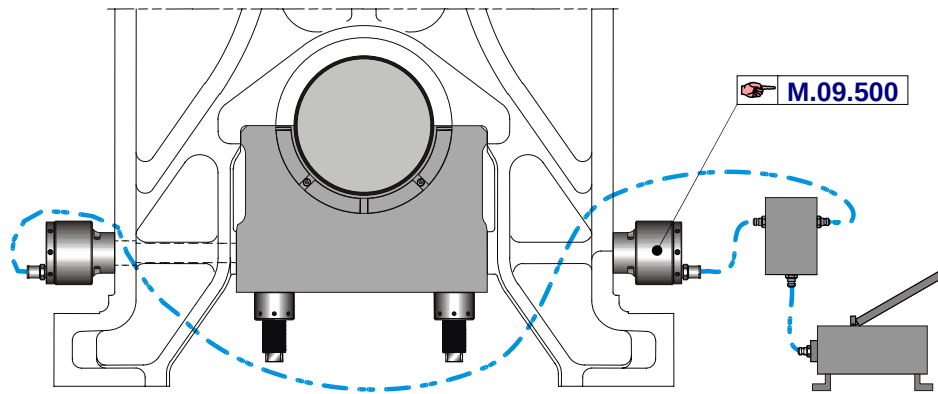

Fig. 1 Install the hydraulic tightening tool (유압 체결 공구의 설치)
- Install the hydraulic tool set on two nuts of side studs as shown in fig 1.